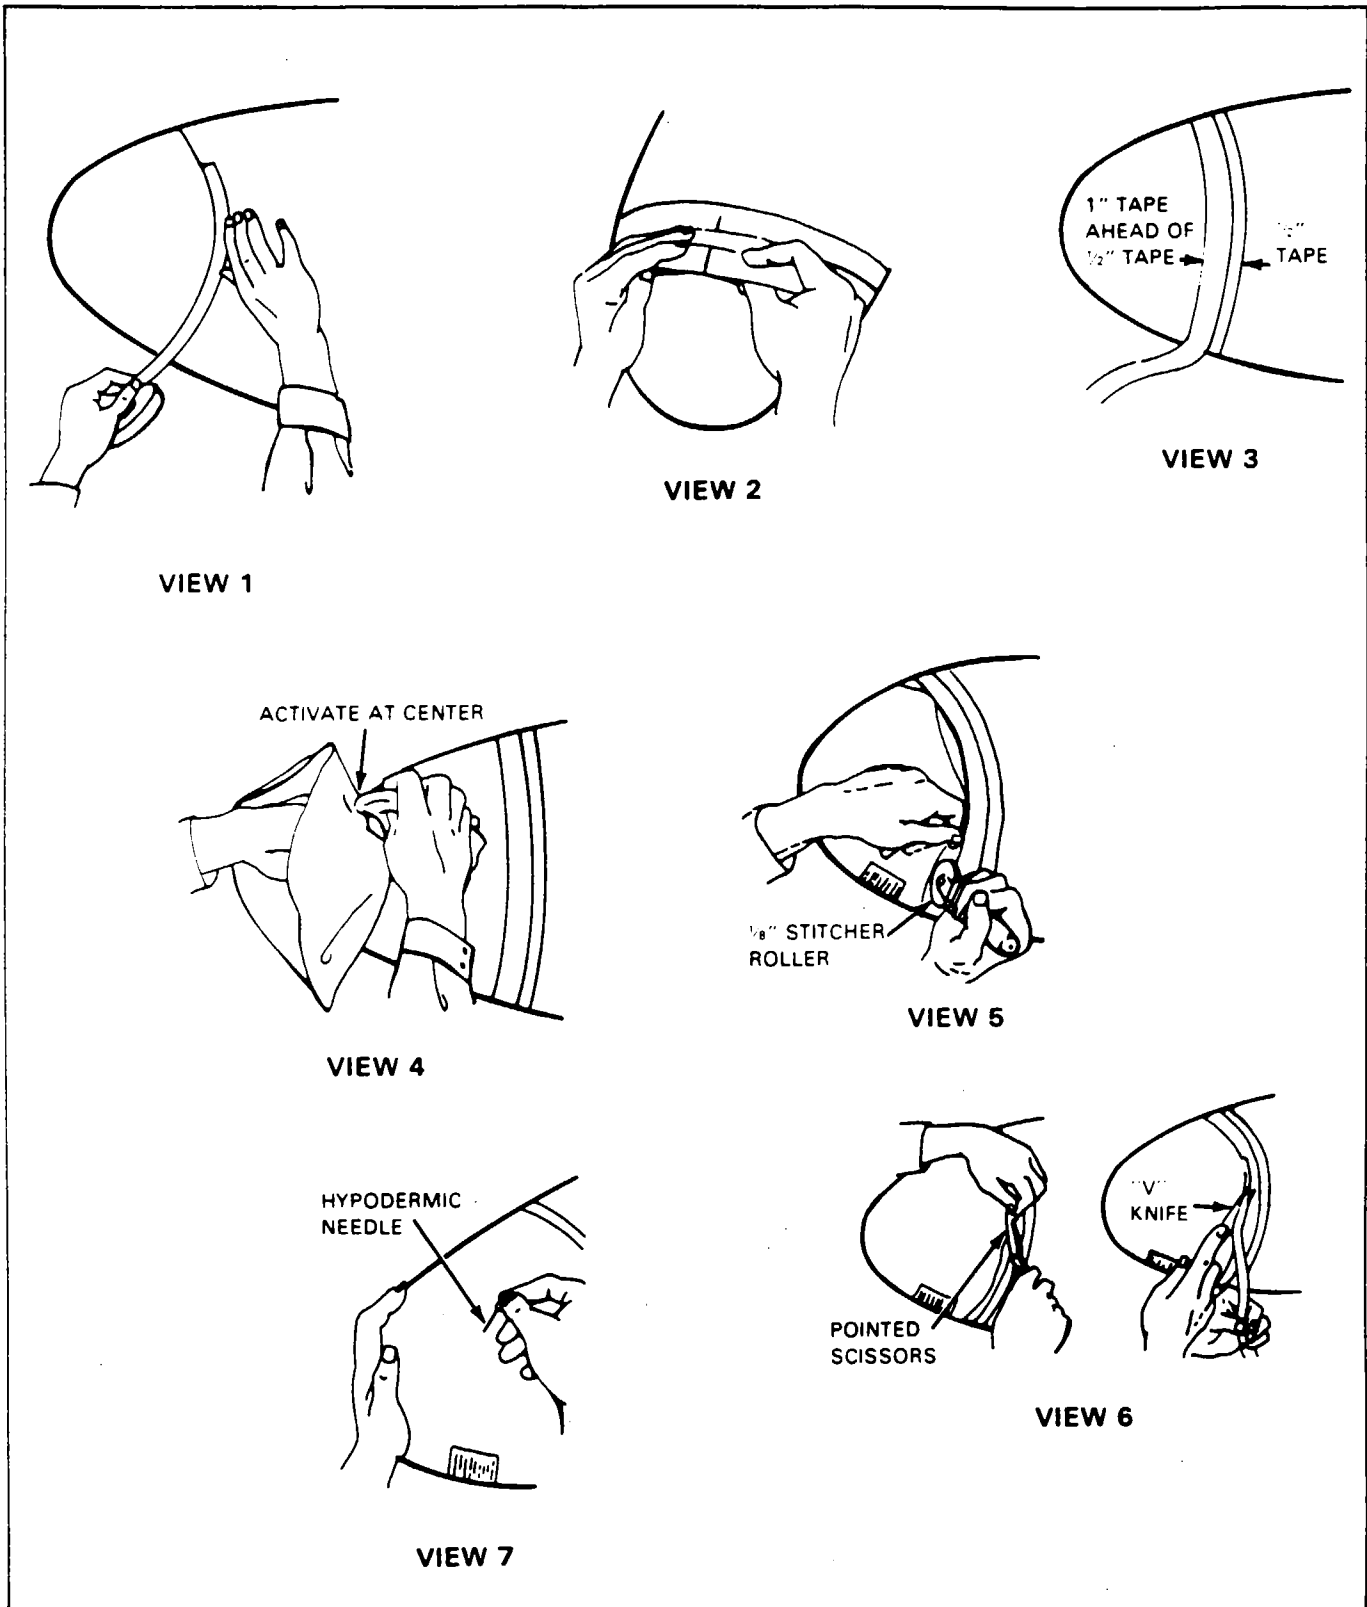

Figure 4-31. Installation of Radome Erosion Shield
- b. Dry fit the erosion shield to the cleaned structure. Position identified "top" surface of erosion shield on top surface of structure. Then adjust each side to provide equal distance from structure attachment line. Smooth out any wrinkles. Apply $\frac{1}{2}$ " wide masking tape to the structure, next to the shield's trailing edge. (Refer to Figure 4-31, View 1.)
- c. Establish a reference line at the top and draw a pencil mark on the masking tape to correspond with the center line mark on the inside of the erosion shield. Repeat at bottom and remove erosion shield from structure. (Refer to Figure 4-31, View 2.)
- d. To establish a trim line apply 1" wide masking tape to butt against forward edge of the $\frac{1}{2}$ " wide tape previously applied. Leading edge of 1" tape will now provide the final trim line. (Refer to Figure 4-31, View 3.)
h. Fold back the trailing edge and use a clean, lint-free cloth moistened (not dripping) with Toluol, to activate the cement on the nose or leading edge of the shield. Activate mating areas, not to exceed one square foot at a time. Avoid excessive rubbing which could remove cement from surfaces. (Refer to Figure 4-31, View 4.)
k. Using a 2" sponge roller, go over entire surface, applying pressure and rolling from the center line or leading edge outward to trailing edge of shield. With steel stitcher roller, roll thoroughly at trailing edge line where shield meets the 1" masking tape. (Refer to Figure 4-31, View 5.)
l. To trim the erosion shield make initial cut into material overlapping the tape, using scissors held at an angle. Using a "V" knife, or pair of scissors with blades opened to form a "V," neatly trim off excess shield material overlapping edge of 1" masking tape, applying light, uniform tension to trim material. (Refer to Figure 4-31, View 6.)
m. If an air pocket or blister is formed, release air by inserting a hypodermic needle at 45° angle or less, pointed toward center or leading edge. Apply finger pressure on blister to remove air and reroll using steel stitcher. Remove all masking tape and clean excess cement from structure using MEK, wiping away from the trailing edge. Prevent solvent from running under and loosening edges of erosion shield. Restitch shoe at its trailing edge, using 1/8" steel stitcher. Inspect complete trailing edge to see that it is firmly bonded. (Refer to Figure 4-31, View 7.)